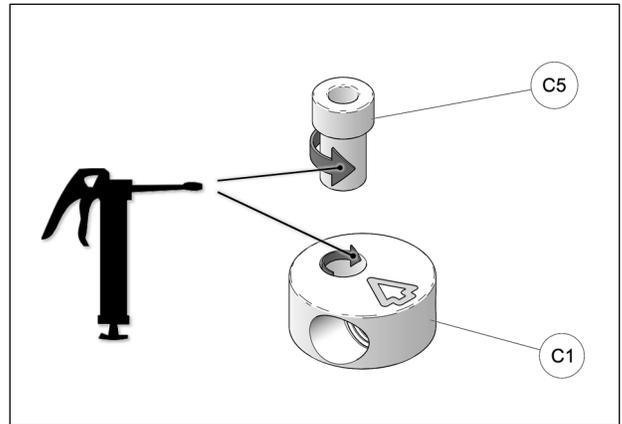

Fig. 28
15. Apply grease evenly all around step spacer bushing (C5) and in hole of aluminum disk (C1) when assembling these parts together. See Fig. 28